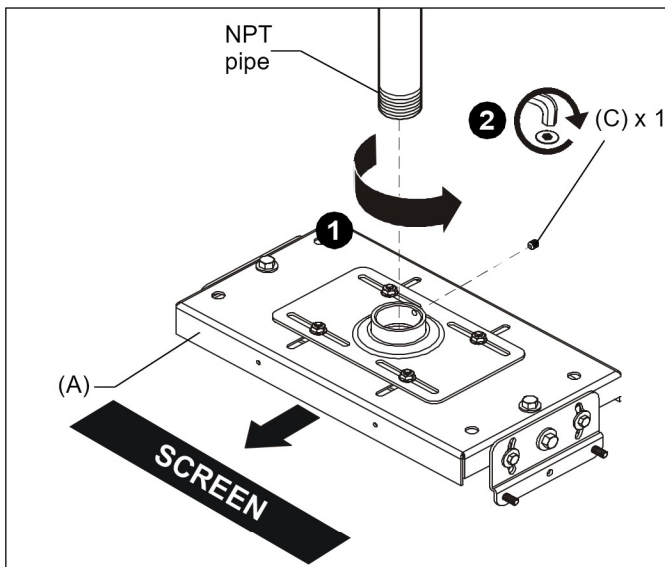

Figure 1
1. Thread the VCM mount (A) onto the existing 1-1/2" NPT pipe until tight with a minimum of four threads engaged. ((Siehe Abb. 1)
NOTE: Ensure that long edge of VCM mount is located parallel to the screen. ((Siehe Abb. 1)
2. Tighten the 5/16-18 x 3/8" set screw (C) into the VCM mount threaded collar to prevent movement of the VCM. ((Siehe Abb. 1)